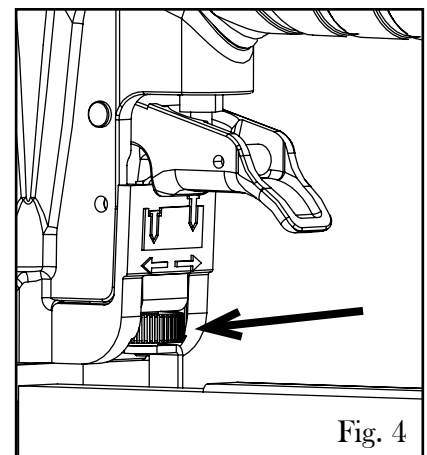

Fig. 4
Use the Depth Adjustment Wheel (Fig. 4) found directly underneath the trigger to adjust the depth of the fired nails. Turn the wheel to the left for deeper nails, or turn to the right for shallower nails.
2. Turn the depth adjustment wheel (Fig. 4) to set the depth of the fired nail. For flooring, it is suggested to always fire at the deepest depth.